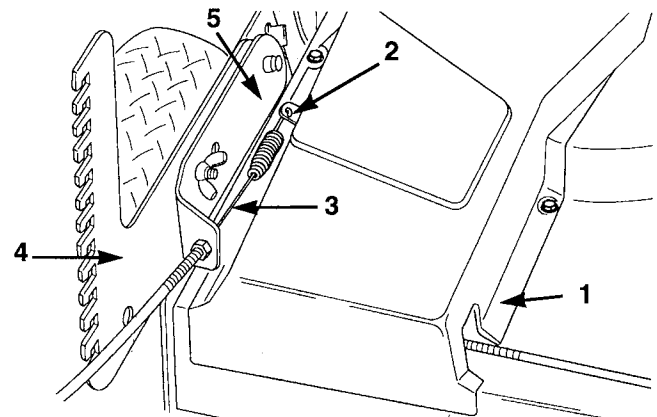

Figure 70
6. Install the belt cover, using two screws (Fig. 70).
7. Hook the end of the traction cable into the hole in the traction lever (Fig. 70).
8. Install an L-shaped bracket on the left-hand handle bracket (Fig. 70).
9. Install the shift bracket so its three holes line up with the holes in the handle mounting bracket. Secure the brackets together with the original carriage bolt, lock washer and wing nut. (Fig. 70).